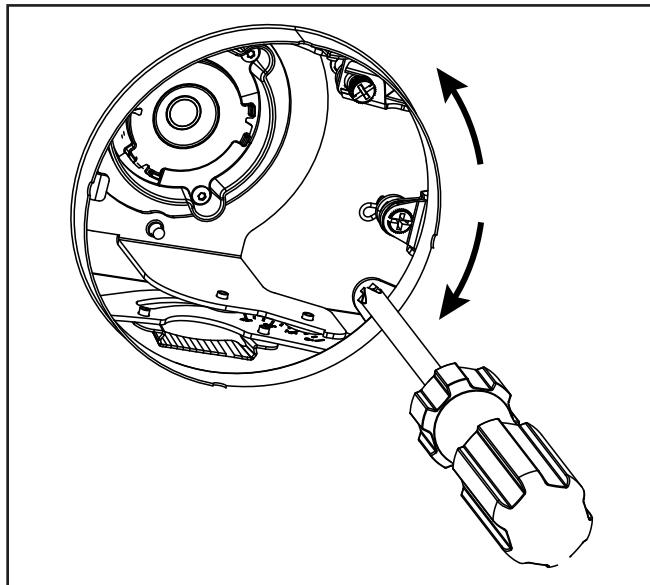

Figure 7b
3. Turn the mechanism to the desired position using the positioning tab and a screwdriver (see Figure 7b).